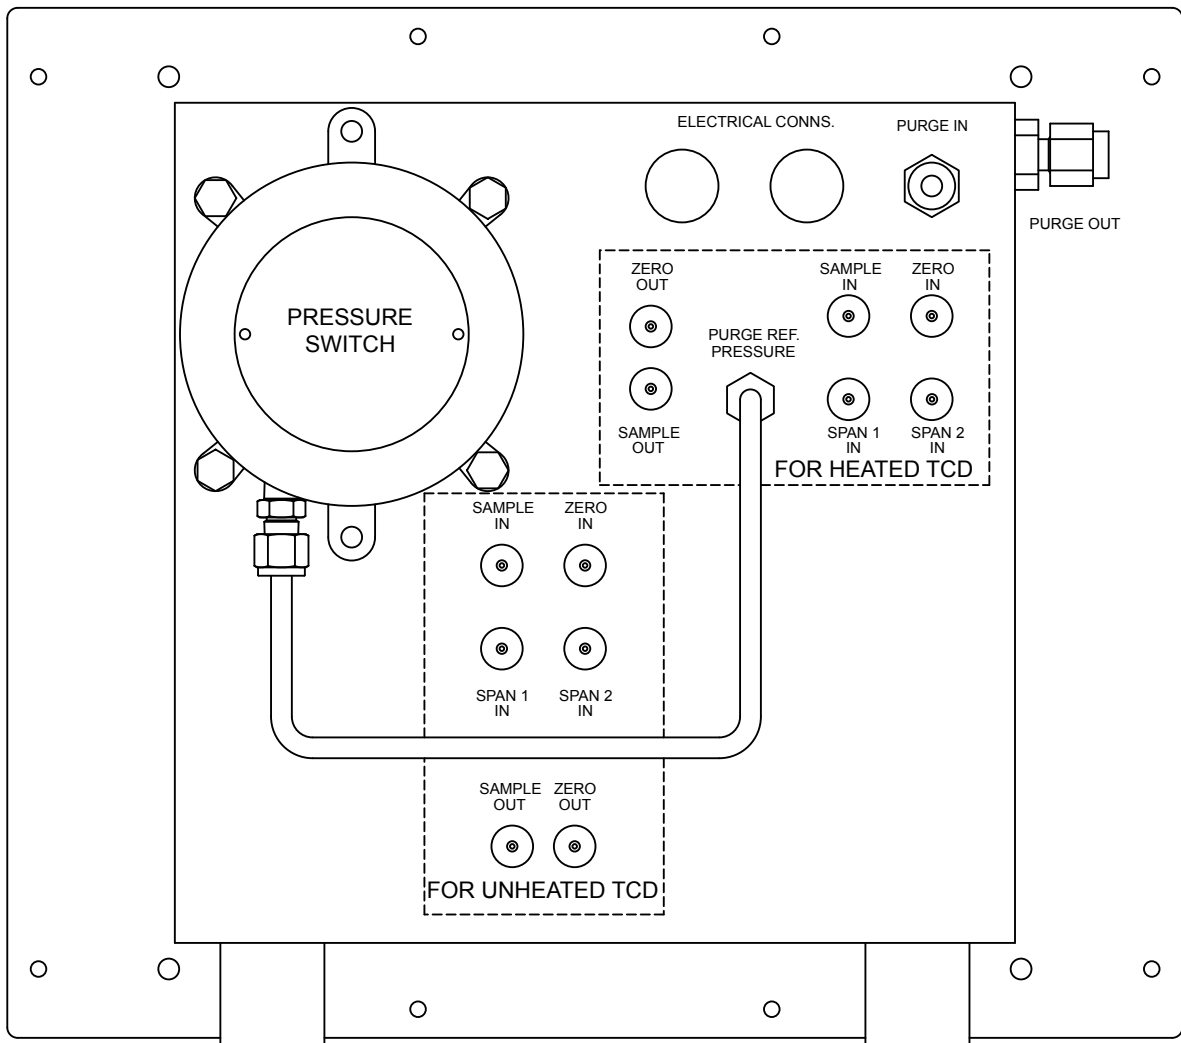

Figure A-1: Back Panel - Purge Option
A.1.0 Installation (refer to Figures A-1 and A-2))
- 1.2 Locate the purge gas IN and OUT fittings on the 20 Series case (refer to Figure A-1). Both purge connections are 1/4-inch compression fittings.